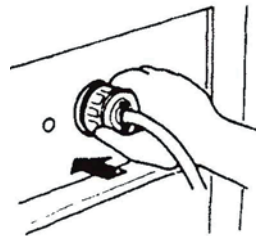

Fig.31
5.5.2 Connect the devices (Figure 31)